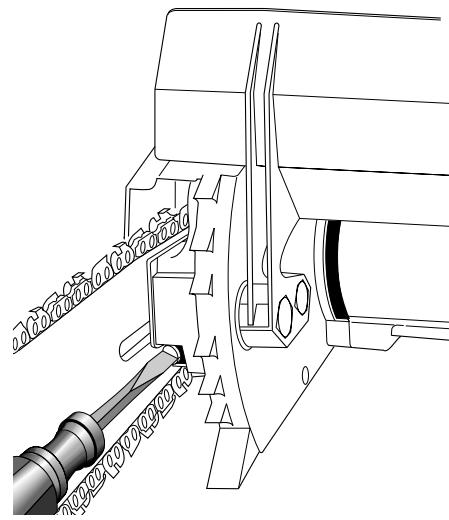
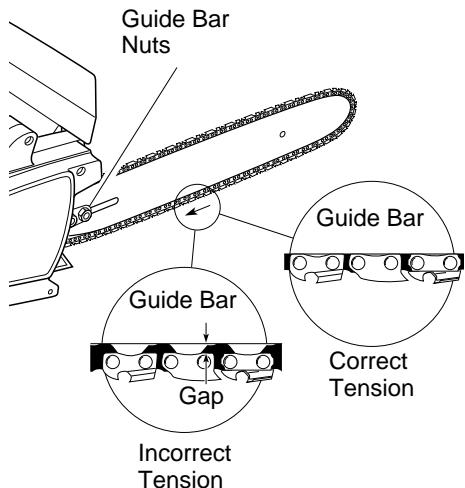

Figure 6 - Turning Adjusting Screw
Figure 7 - Saw Chain Adjustment
2. Turn adjusting screw clockwise until all slack is out of chain (see Figure 6). **Note:** There should be no gap between side links of chain and bottom of guide bar (see Figure 7).